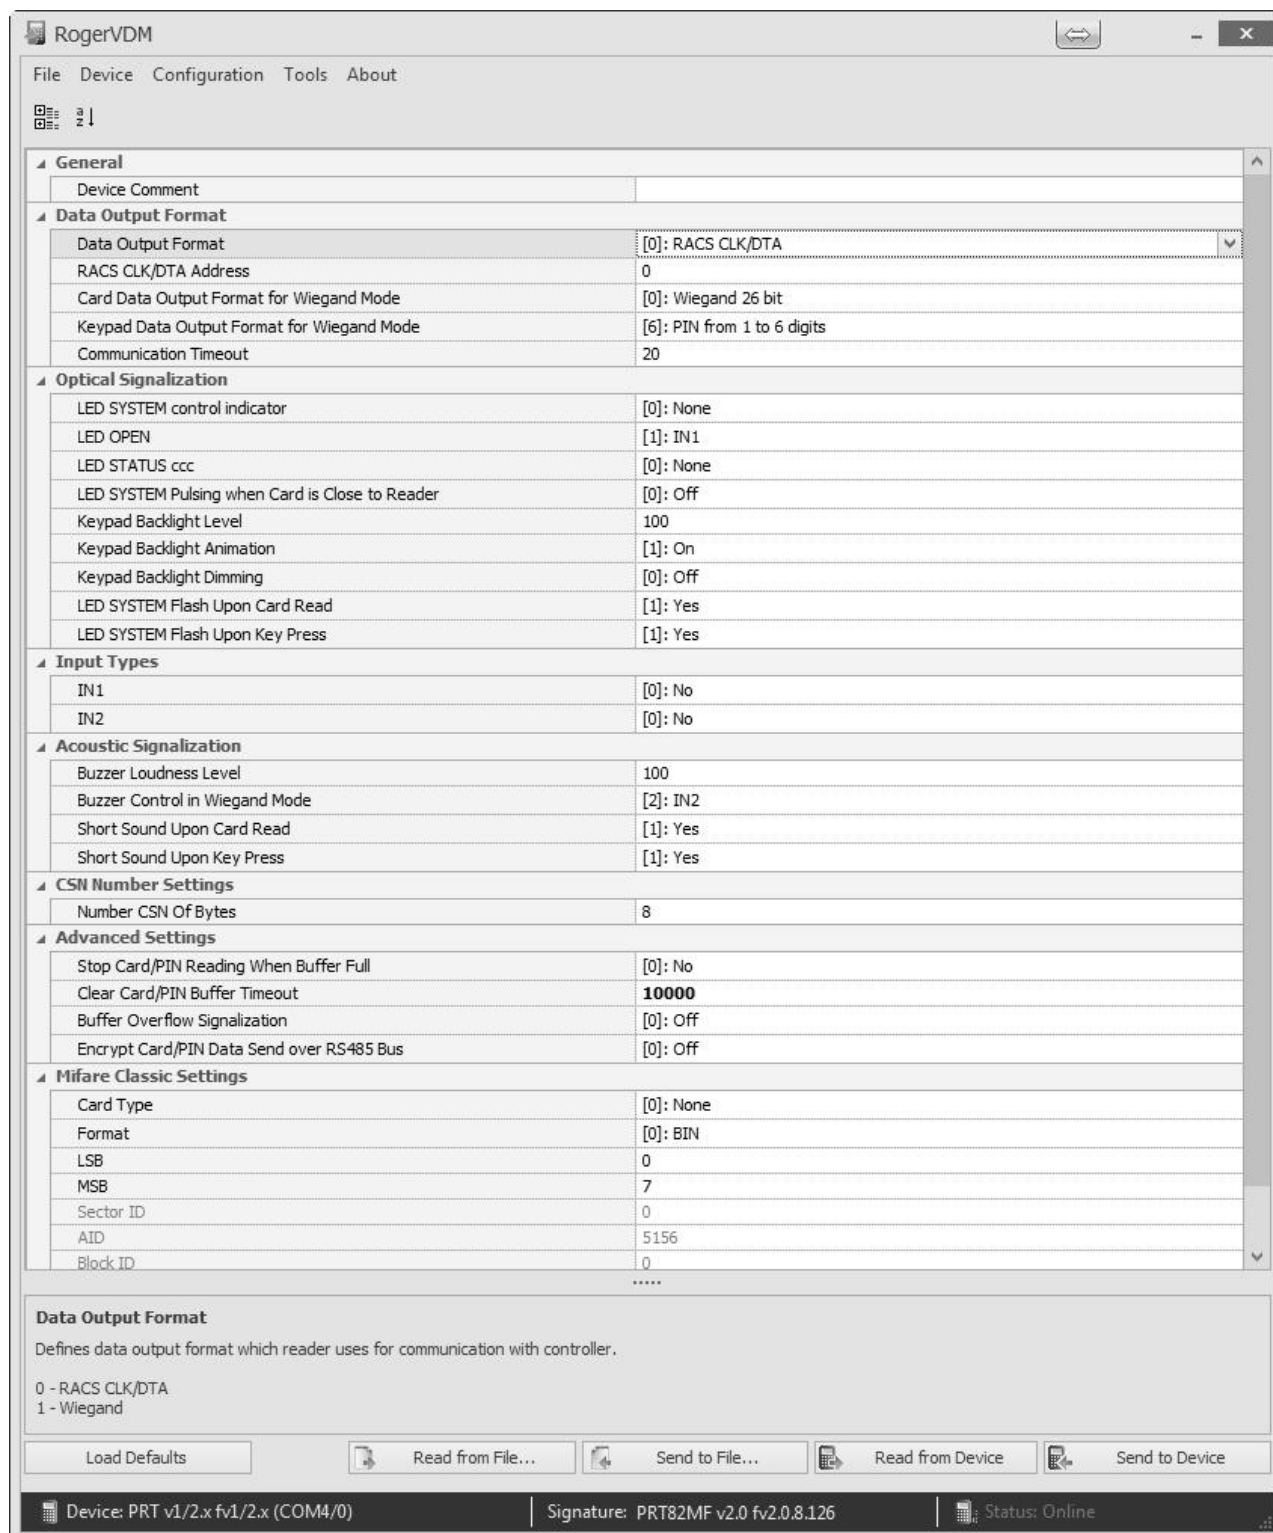

Fig. 5 Configuration window view
7. Set the parameters (configuration window is shown on Fig. 5, the description of available options is given in Table 1).